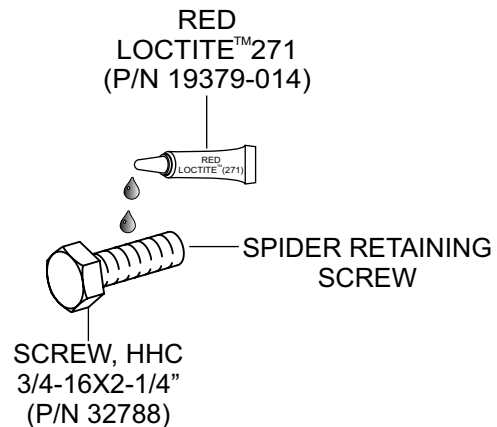

Figure 8. Spider Retaining Screw
6. Remove spider retaining screw and apply Red Loctite™ 271 (19379-014) to the screw threads (Figure 8).